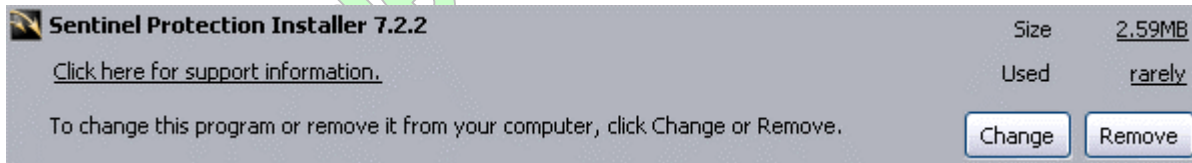

Figure 13 — Sentinel Driver item in Add/Remove Programs control panel
- On the *Change or Remove Programs* (the default) sub-section, find *Sentinel Protection Installer* in the main listing, select it, and press the *Remove* button (Figure 13 below). (version number may not exactly match graphic below)